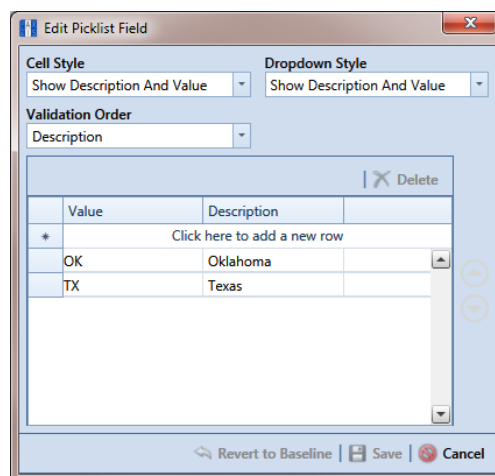

Figure 3-54. Edit Picklist Field
- 5 If you want to add or remove data items in a picklist UDF, navigate to the grid column labeled *Grids - Pick List Definition* and click the  edit icon to open the *Edit Picklist Field* dialog box (Figure 3-54).